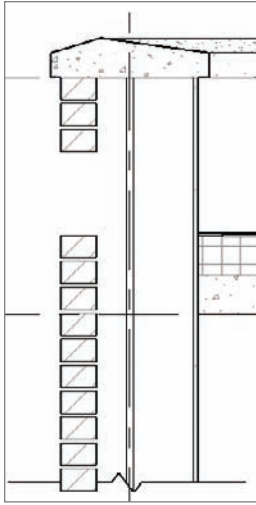

FIGURE 12.14 The bricks are being placed.
5. Press Esc twice. Look at Figure 12.14. Does your detail look the same?